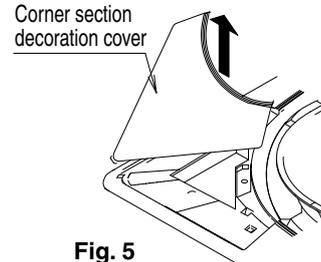

Fig. 5
- (2) Remove the corner section decoration cover.
- Lift the four corner decoration covers in the direction of the arrow and remove. (Refer to Fig. 5)